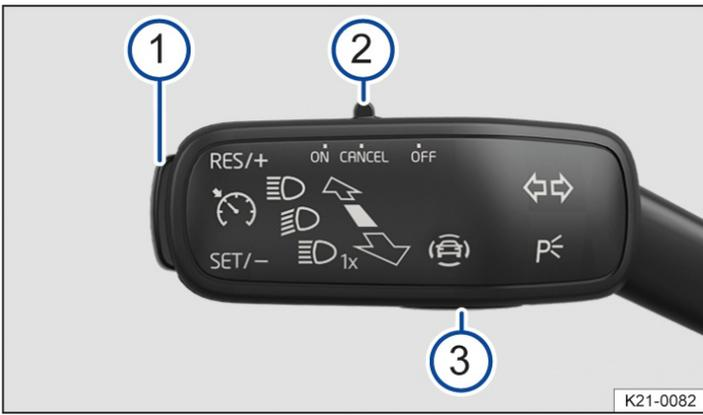

Fig. 1 On the left side of the steering column: Switch and buttons for operating the speed limiter.
1. Slide the → *fig. 1* **2** switch into the **ON** position.
1. While driving, press the → *fig. 1* **1** button into the **SET/-** position.